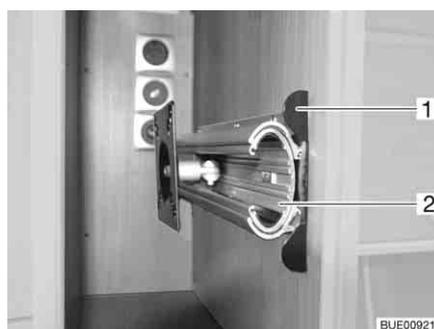

Fig. 55 Holder in the TV cabinet
- Push the unlocking bar (Fig. 55,1) in.
- Pull out the extension (Fig. 55,2) as far as possible.
- Push in the extension (Fig. 55,2) until the unlocking bar (Fig. 55,1) engages.